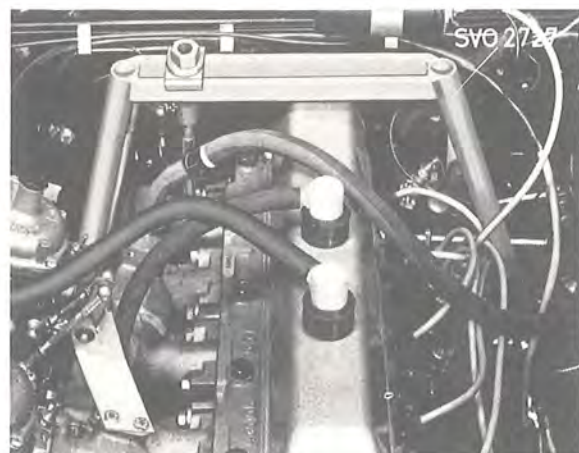

Fig. 4-16. Suspending the engine
- SVO 2727 Tool for suspending engine when removing and fitting gearbox, see Fig. 4-16
1. Secure lift tool SVO 2727 to the engine as shown in Fig. 4-16. The lifting hook is secured round the exhaust manifold.